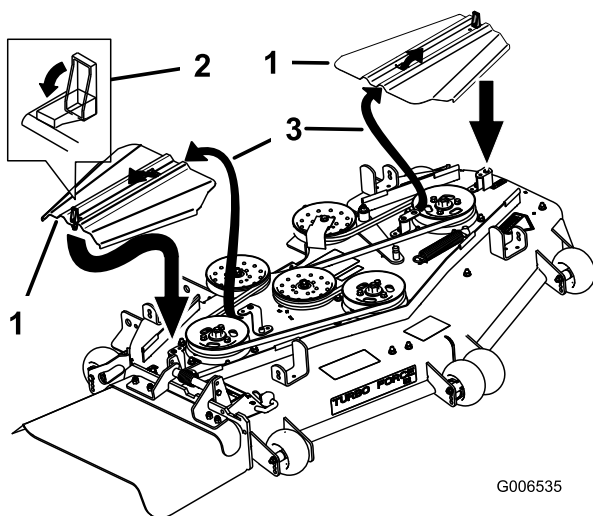

Figure 65
12. Install the belt covers by sliding the cover into the tab, install the bolts, and close the latches (Figure 65).